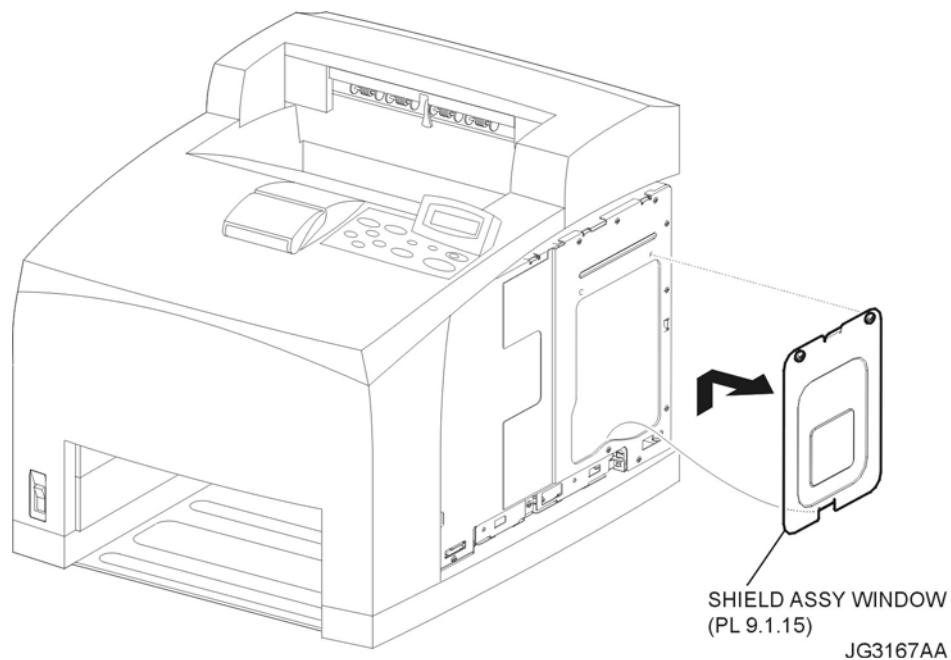

Figure 1. Window Shield Assembly
- 1) Install the SHIELD ASSEMBLY WINDOW to the frame using the 2 screws (Figure 1).